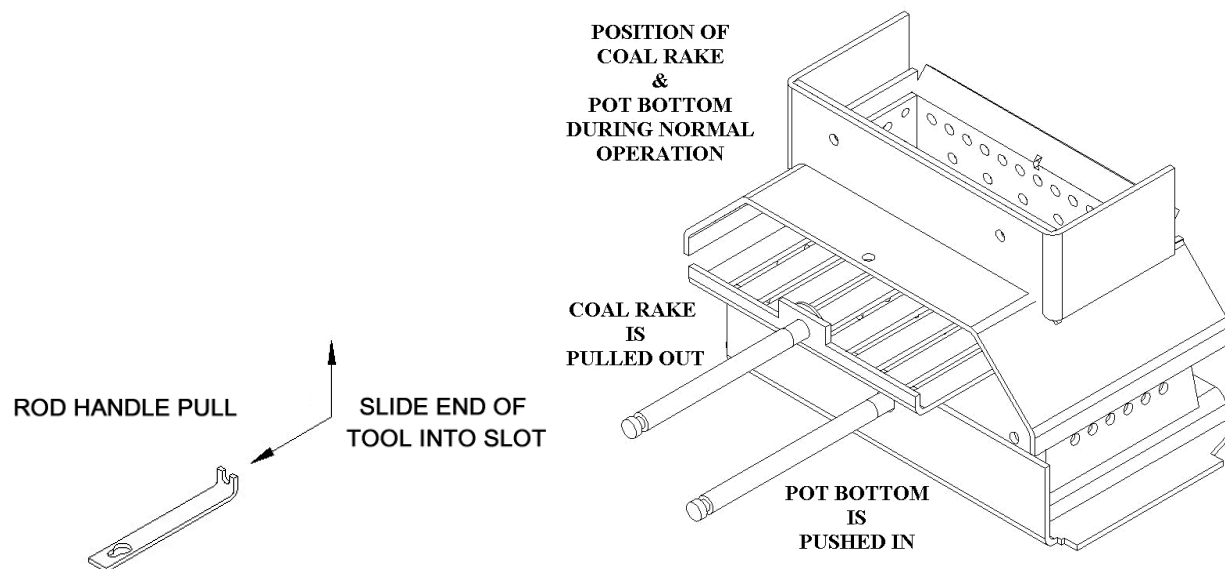

Figure 23
Step 5 - Dropping the coals back into the burn pot. At this time pull the coal rake back out of the burn pot to drop the coals in the pot. *See position of Coal Rake & Pot Bottom in figure 23 on page 41 for normal operation.*
2. Cleaning the Heat exchange tubes. Now you can pull the tube scraper back and forth a couple of times to keep the tubes clean. If the Tube Scraper feels sticky and difficult to move, check for the presence of creosote on the tubes. If creosote is present a damper adjustment may be needed or the Multi-Fuel Insert has become plugged and needs a thorough cleaning. Call Dealer for assistance. To pull the tube scraper back and forth use the Rod Handle tool shown in Fig. 23 on page 41.